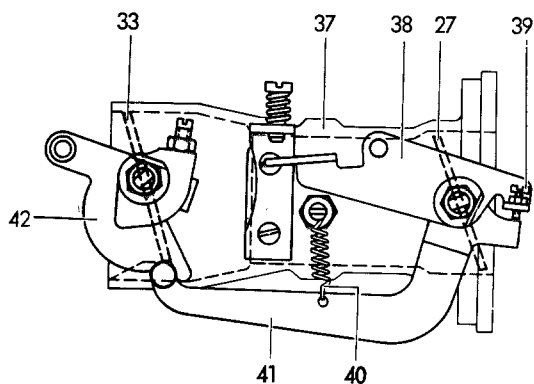

Fig. 07-0/37
When the choke valve closes, the throttle valve (27) of stage 1 is automatically opened approx. 5° by the choke valve lever (42) with cam plate and the relay lever (41) (Fig. 07-0/37).